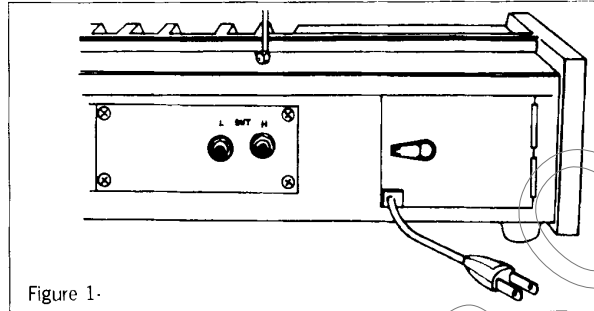

Figure 1-
1. Connect AC line cord (found inside recessed compartment on rear of unit, figure 1) to local voltage 50/60Hz outlet.
2. Connect audio cable (shielded-type) from jack marked "Output", to input of your amplifier. Utilize jack marked "H" for high impedance use ($100K \Omega$) or jack marked "Low" for low impedance ($5K \Omega$) shown in figure 1.
3. Switch on/off control to "On" position. If pilot lamp fails to light, check fuse found in rear compartment, figure 1 and replace *With identical rating only.*